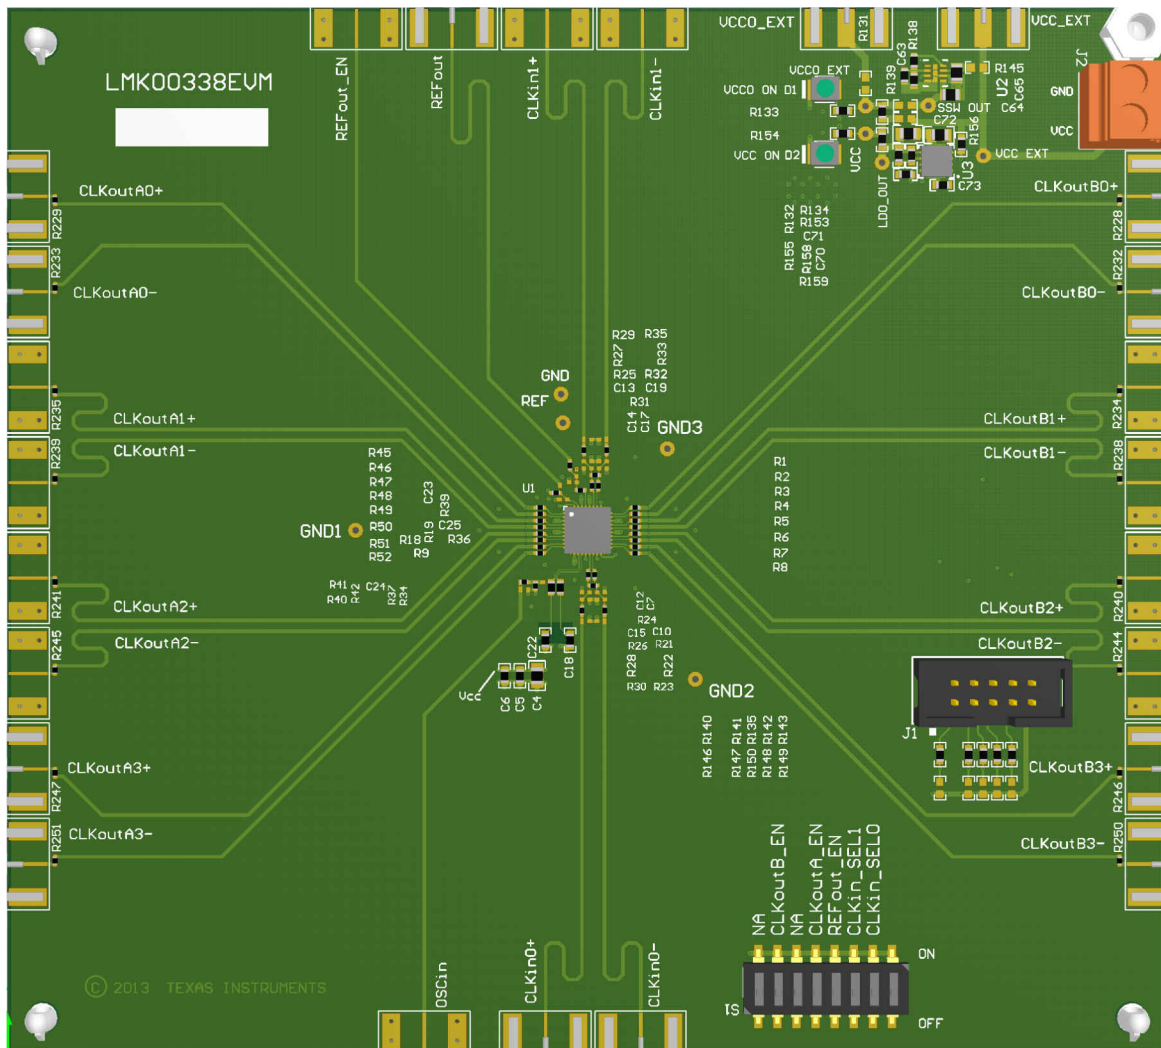

Figure 10-1. LMK00338 Layout Example
- For DC-coupled operation of an HCSL driver, terminate with 50 Ω to ground near the driver output as shown in Figure 10-1.